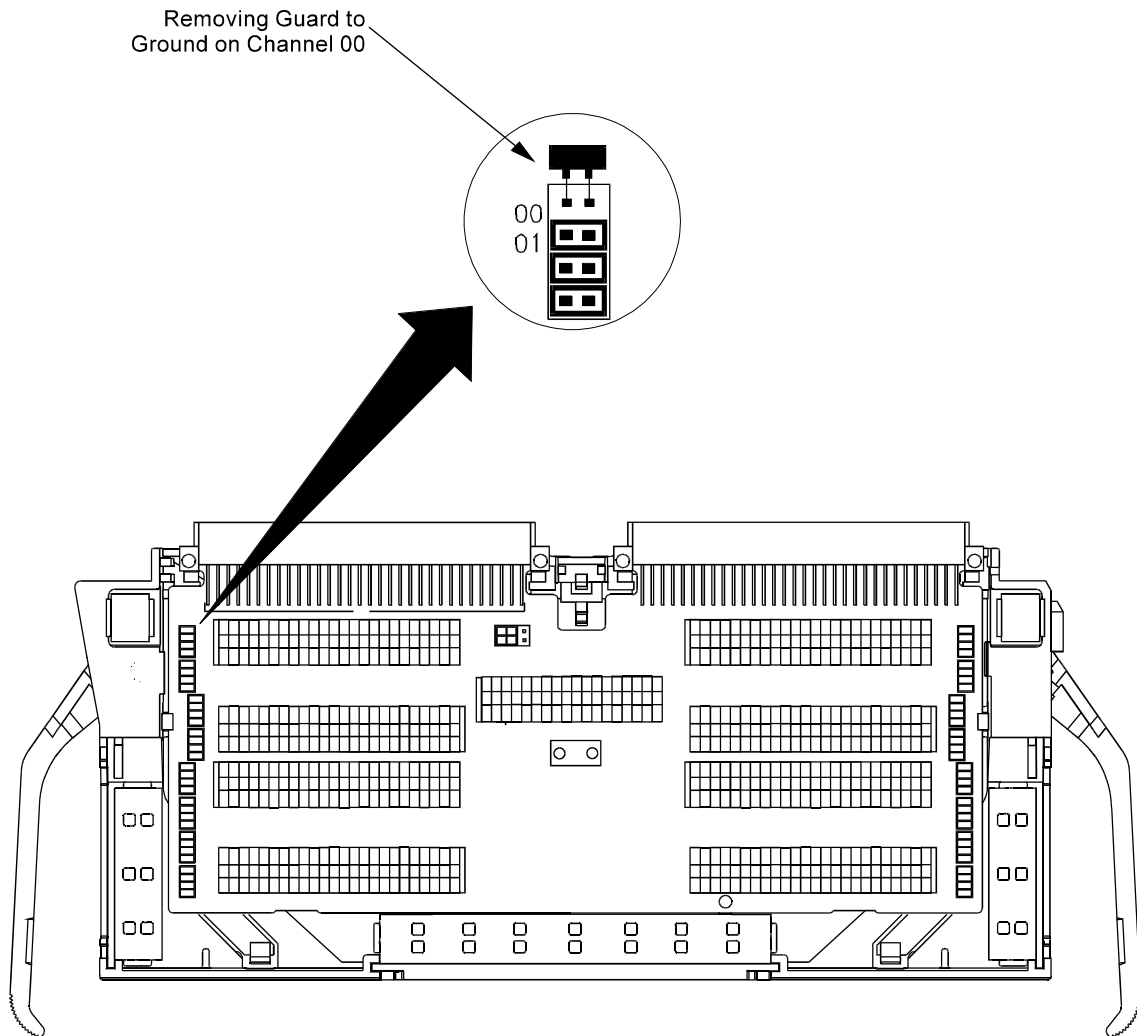

Figure 2-11 Grounding Option 12 Guard Terminals
4. The Terminal Module is shipped with the Ground-Guard (GND-GRD) shorting jumper installed for each channel. These may be left installed or removed (see Figure 2-11 to remove the jumper), dependent on the following conditions: